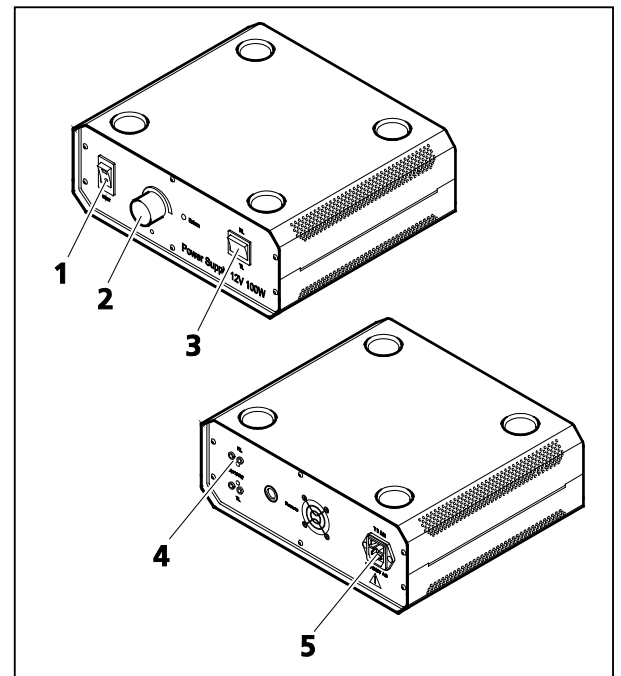

Fig. 44 Reflected light power supply 12V 100W for HAL 100
- For reflected light, connect the three-pin plug of the HAL 100 to the RL socket (Fig. 44/4) on the back of the 12 V 100 W power supply.
- Set the transmitted-light / reflected-light toggle switch (Fig. 44/3) to the position for reflected light (RL).
- Use a power cord to connect the power connector (Fig. 44/5) to a power outlet.
- For reflected light, use the ON / OFF switch (Fig. 44/1) on the power supply to turn the HAL 100 on or off, as required.
- Use the rotary knob (Fig. 44/2) on the power supply to adjust illumination intensity.